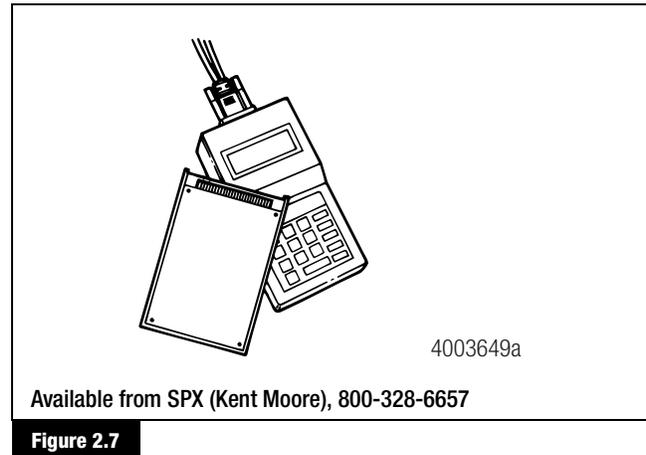

Figure 2.7
- Requires a Multiple Protocol Cartridge (MPC) and Meritor WABCO applications card, version 2.0 or higher, for use with RSSplus™ with PLC. Figure 2.7.